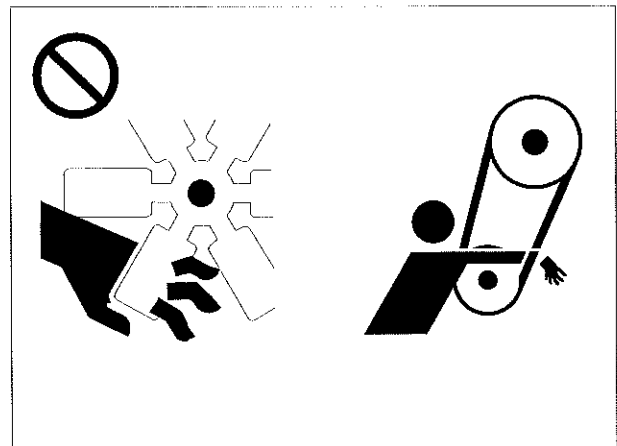

Fig.2-43
- Use pressure gauges to check fluid pressure values and air pressure values. See Fig.2-43. The correct uses of V-belt tension gauge have been described, see: section 5.4.3.19 "Engine belt" on page 5-21.